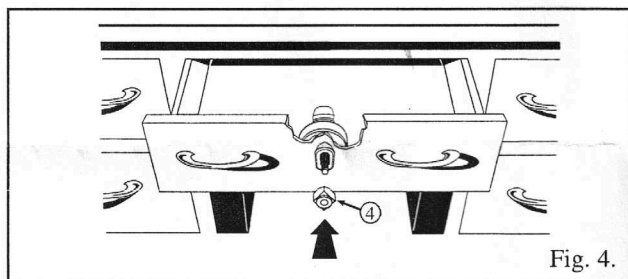

Fig. 4.
3. Screw on the drive nut (4) until hand tight, then use a wrench to continue the tightening process until the metal is cut through. See Figs. 4 and 5.